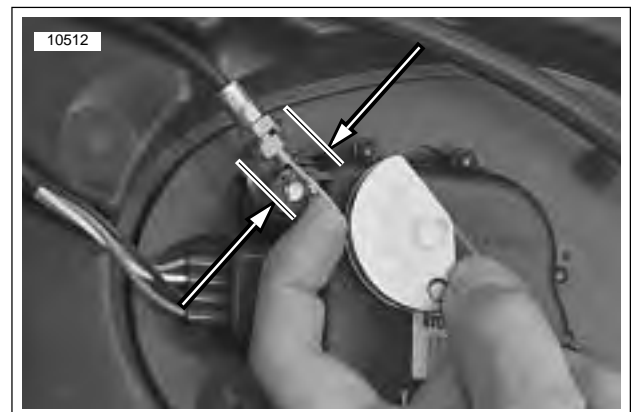

Figure 1-44. Checking For 1/8 in. (3.2 mm) Maximum Free Play In Either Direction For Proper Adjustment
9. See Figure 1-44. Adjust interactive exhaust cable as follows: